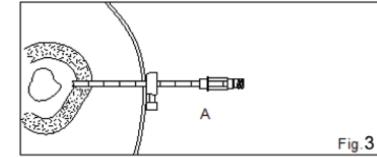

Fig. 3
- FIG. 3** Firmly hold the Cutting Cannula with Handle (A+F) and unscrew and remove the Stylet (B). If desired, the Handle (F) can be removed from the Cutting Cannula (A) by placing two fingers under the Handle (F) and pressing the luer end of the Cutting Cannula (A) with the thumb.